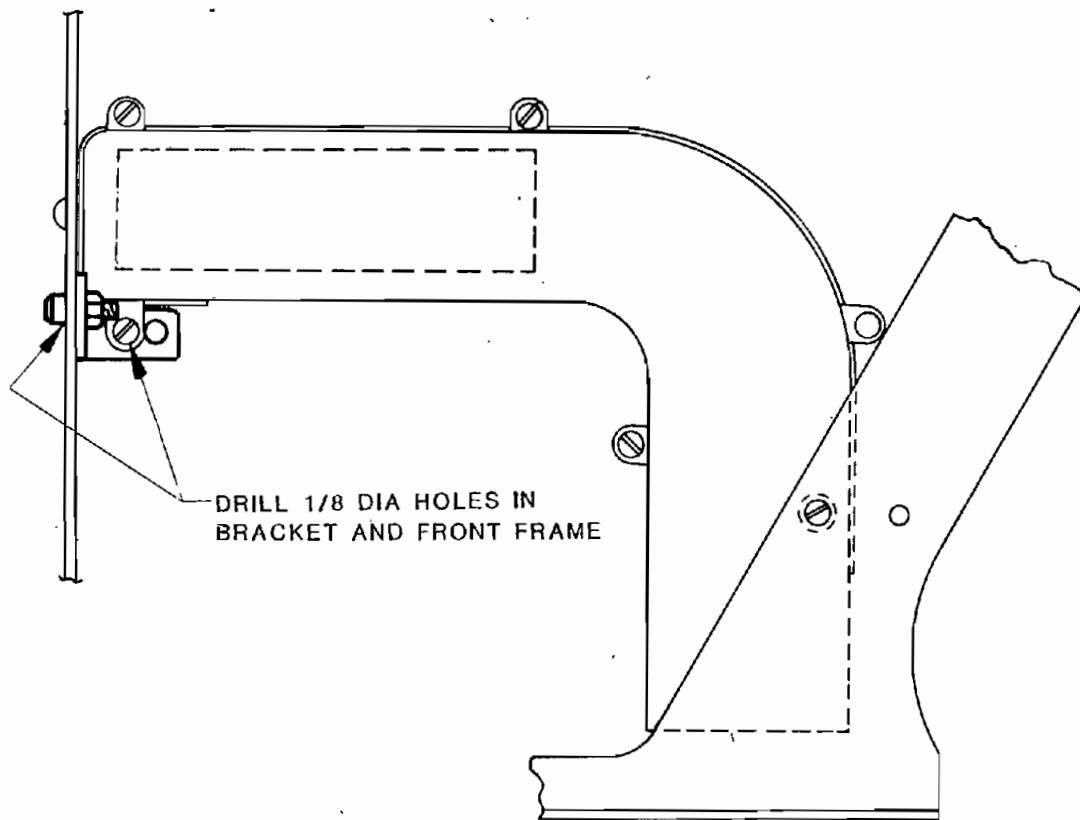

Figure 5
**STEP 5 COOLING SYSTEM - see Figure 5**